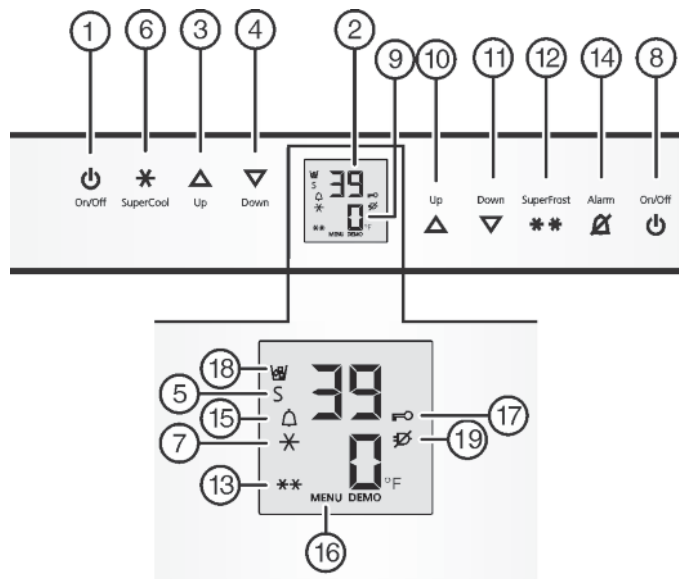

Fig. 3
- Press On/Off button, freezer compartment *Fig. 3 (8)*.
- Press Fridge compartment On/Off button *Fig. 3 (1)*.
- Activate setting mode: Press SuperFrost button *Fig. 3 (12)* for about 5 seconds.
- ▷ The Menu symbol *Fig. 3 (16)* lights up.
- Using Freezer compartment Up button *Fig. 3 (10)*/ Freezer compartment Down button *Fig. 3 (11)* select °.
- To confirm: Briefly press SuperFrost button *Fig. 3 (12)*.
- Using Freezer compartment Up button *Fig. 3 (10)*/ Freezer compartment Down button *Fig. 3 (11)* select °F or °C.
- To exit setting mode: Press Freezer compartment On/Off button *Fig. 3 (8)*.
- Activate setting mode: press and hold the SuperFrost button *Fig. 3 (12)* for approximately 5 s.
- Using the Freezer compartment Up button *Fig. 3 (10)* or Freezer compartment Down button *Fig. 3 (11)*, select **c**.
- Press the SuperFrost button *Fig. 3 (12)* briefly to confirm.
- To switch on the child-proof lock, press the SuperFrost button *Fig. 3 (12)* briefly.
- ▷ The Child safety symbol *Fig. 3 (17)* lights up. **c** flashes on the display.
- To switch off the child-proof lock, press the SuperFrost button *Fig. 3 (12)* briefly.
- ▷ The Child safety symbol *Fig. 3 (17)* goes out. **c** flashes on the display.
- Deactivate setting mode: press the Freezer compartment On/Off button *Fig. 3 (8)*.
► Press Alarm button *Fig. 3 (14)*.
At the same time, the Alarm symbol *Fig. 3 (15)* will flash.
The audible warning automatically ceases, the Alarm symbol *Fig. 3 (15)* goes out, and the temperature display stops flashing when the temperature is cold enough again.